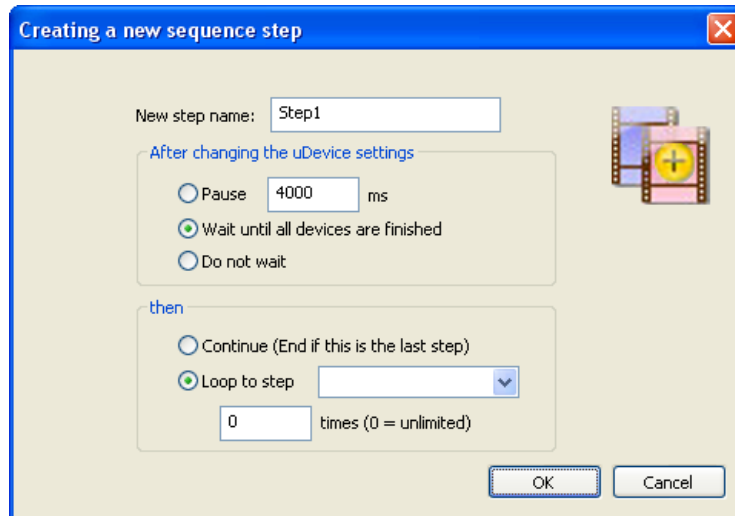

Figure 21. Creating a New Process Step Dialog Box.
5. Click the **Save as New Sequence Step**  button. The **Creating a New Sequence Step** dialog box will open (Figure 21).